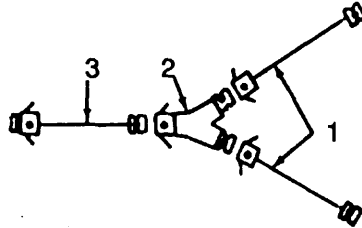

Figure 4-18. Wye Fitting Assembly, Removal/Installation.
a. Removal. (Refer to Figure 4-18.)
- (1) Pull upon camlock levers and remove two discharge hose assemblies (1).
- (2) Pull upon camlock levers on wye fitting (2) and remove wye fitting (2) from suction hose assemblies (3).
- (1) Refer to Figure 4-18 and position wye fitting (2) on suction hose assembly (3) and secure by pushing down on camlock levers.
- (2) Install two discharge hose assemblies (1) and secure by pushing down on camlock levers.